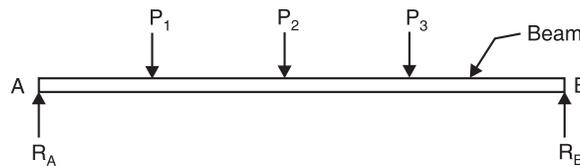

Fig. 1.6
- (i) A system of vertical forces acting on a simply supported beam along with support reactions, as shown in Fig. 1.6.
Coplanar Parallel Forces: A system of coplanar forces which are parallel to each other are called coplanar parallel forces. For example, the forces shown acting on the beam AB in Fig. 1.6 are coplanar parallel forces as they all lie in the same vertical plane.
Coplanar Like Parallel Forces: A system of coplanar parallel forces acting in the same direction are called coplanar like parallel forces. For example, the forces P_1 , P_2 and P_3 acting on the beam in Fig. 1.6 are coplanar like parallel forces. Similarly the tension $T_1 = T_2$ acting in the rope in Fig. 1.7 are coplanar like forces.